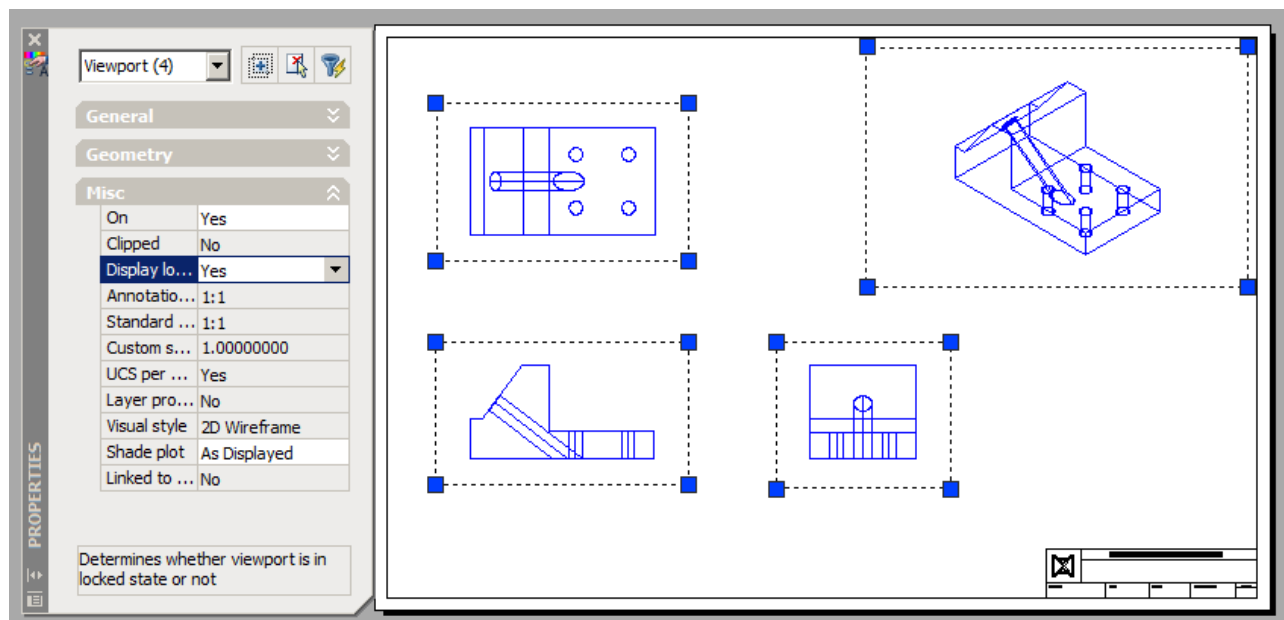

Figure Step 13
Step 13 Using the UNITS command, set the length precision to 8 decimal places. Open the Properties window and select all four viewports as shown in the figure. Check to ensure that the scale of all viewports are set to 1:1. Lock their display. (Figure Step 13)